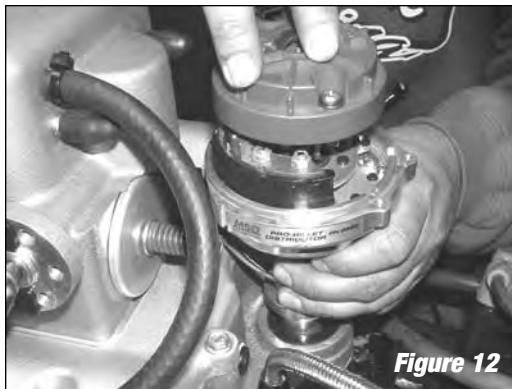

Figure 10
5. Carefully place the supercharger and manifold top plate assembly onto the intake manifold **(See Figure 10)**.